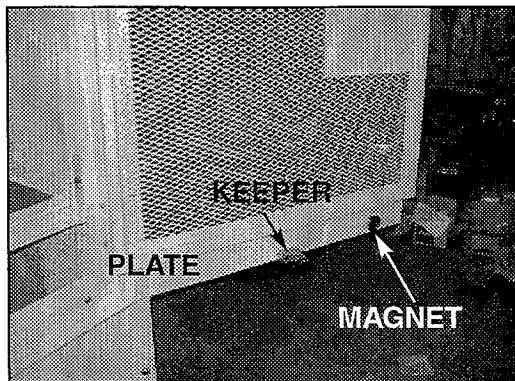

Figure 20
2. Adjust plate up and down or interlock keeper left or right to align into interlock. Adjust magnet to hold gate shut. See Figure 20.